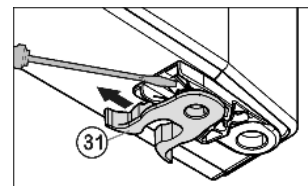

Fig. 6
- Transfer the spring clamp Fig. 6 (31): Depress the latch nose and pull the spring clamp off over it.